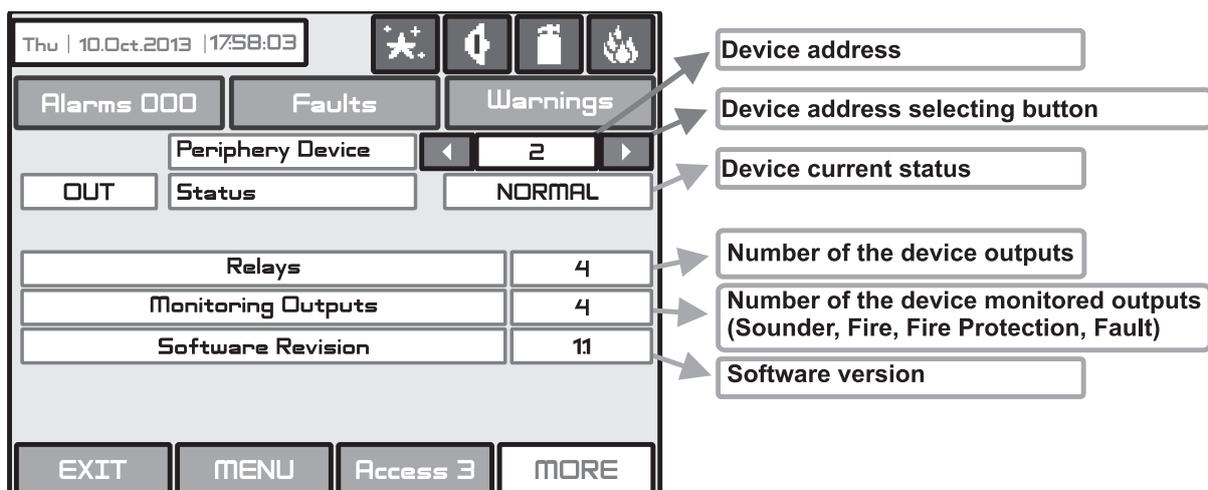

Fig. Screen 6 – OUT (Output module + 4 Relay Expander Module)
- **OUT** (Output Module + 4 Relay Expander Module) - see Fig. Screen 6